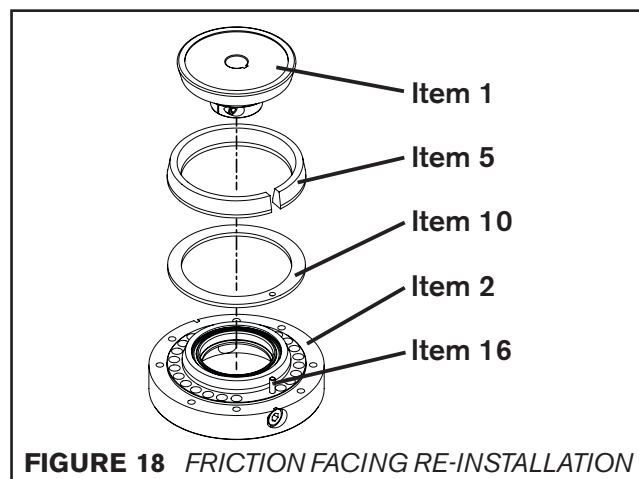

FIGURE 18 FRICTION FACING RE-INSTALLATION
NOTE: Refer to **Figure 18**
2. Place Facing Backing Plate (Item 10) and then the Friction Facing (Item 5) on the Input Flange (Item 2) as shown in **Figure 18**. *The hole in Facing Backing Plate (Item 10) fits over Anti-Rotation Pin (Item 16).* Ensure Friction Facing (Item 5) is orientated such that its taper is the same direction as the taper on Hub (Item 1). Rotate Friction Facing (Item 5) so that Anti-Rotation Pin (Item 16) fits in facing gap.
NOTE: Refer to **Figure 18, 19 & Table 7**